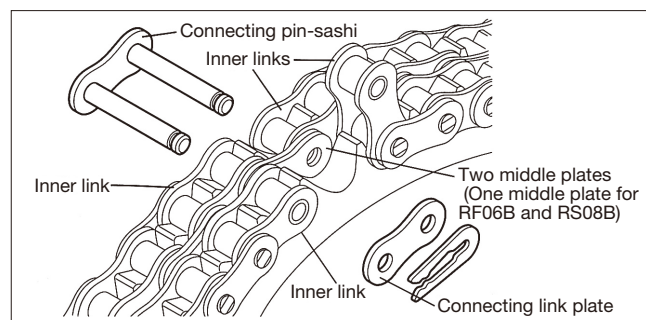

Fig. 15 Inserting connecting pin-sashi
- 2) Insert a connecting pin-sashi into the inner links on both ends. Insert two middle plates if using a multi-strand chain, then insert the inner link onto the pins. (Fig. 15)